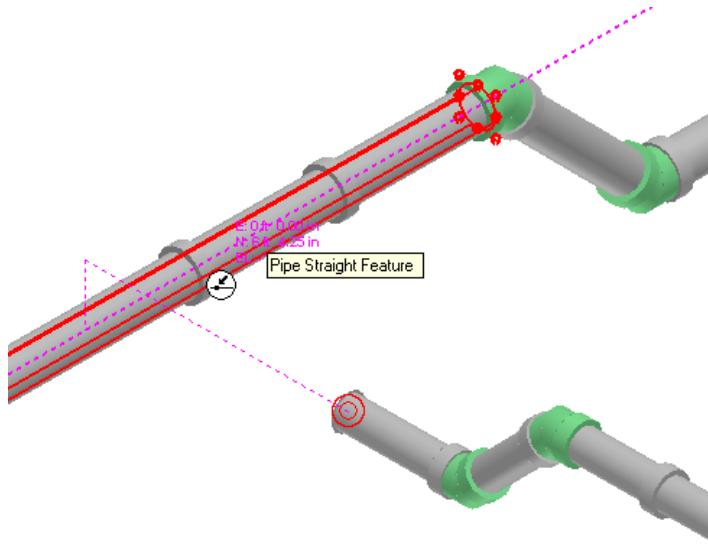

Figure 31: Pipe Straight Feature of the Main Sewer Line
54. Now, click the **Route Pipe** button on the vertical toolbar and position the cursor on the **Pipe Straight Feature** of the main sewer line to start routing the lateral sewer line, as shown in Figure 31.